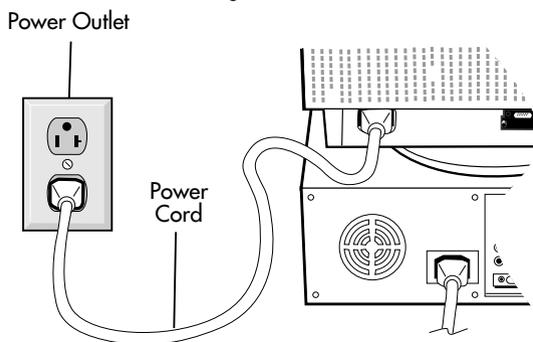

Figure C.1
5. Connect one end of the power cord to the MultiSync A900 monitor and the other end to the power outlet (Figure C.1).